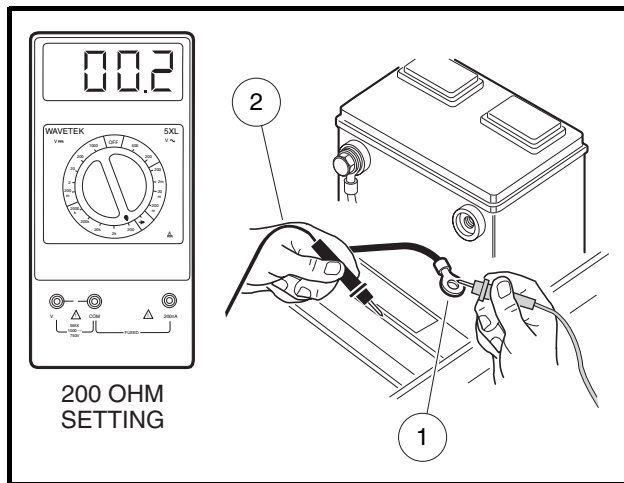

Figure 12-7 Battery Ground Cable Test
- 5.2. Set the multimeter to 200 ohms. Place the red (+) probe on the unconnected end of the 6-gauge black cable, and place the black (–) probe on the vehicle frame (**Figure 12-7, Page 12-13**). The reading should be continuity. If the reading is incorrect, ensure that terminal connections are clean and tight. If the connections are good and the reading is incorrect, repair or replace the cable.